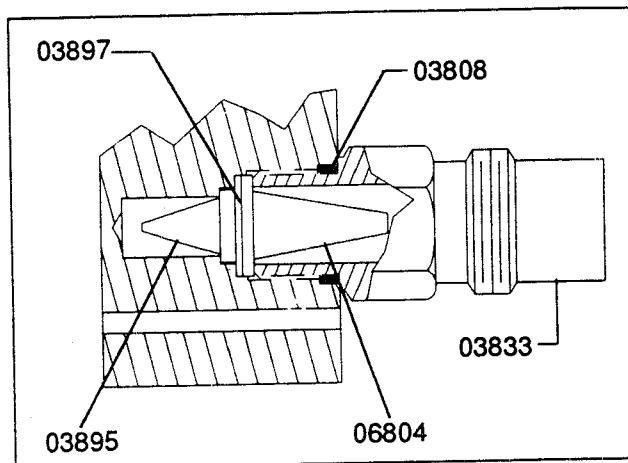

Figure 12
3.0 AIR INLET DISASSEMBLY/ REASSEMBLY - BOTTOM REAR OF MICROBLENDER (FIGURE 12)